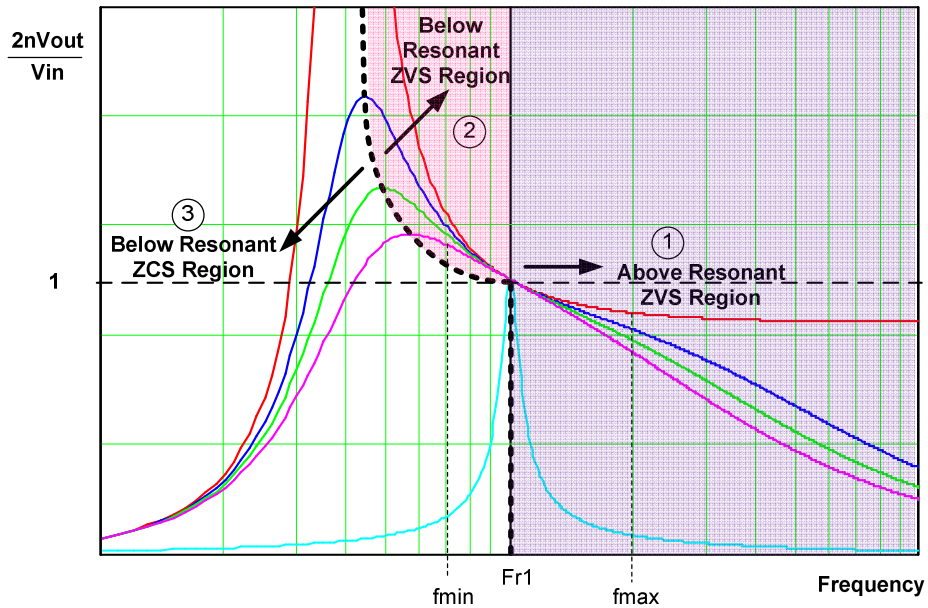

Figure 4: Typical frequency response of a LLC resonant converter
The typical AC transfer characteristics¹ for a LLC tank resonant converter are shown in **Figure 4**. The group of curve indicates the gain under different load conditions.
In the 2nd region, the switching frequency is higher than the lower resonant frequency but lower than F_{r1} . Region ② is in the pink shaded area in **Figure 4**. The lower resonant frequency varies with load, so the boundary of region ② and region ③ traces the peak of the family load vs. gain curves. In this complex region, the LLC resonant operation can be divided into two time intervals. In the first time interval, L_r resonates with C_r and L_m is clamped by output voltage. When the current in the resonant
To keep the converter working in soft switching mode, the operating point should always be in the ZVS region as shown in **Figure 4**. The ZVS ZCS boundary line is defined by the phase angle of Z_{in} $\Phi(Z_{in}) = 0$ (the boundary condition between capacitive and inductive load), i.e. the imaginary part of Z_{in} is zero. With this condition we can calculate the maximum Q which allows the converter to stay in ZVS. The maximum Q happens at the minimum input voltage and the maximum load.